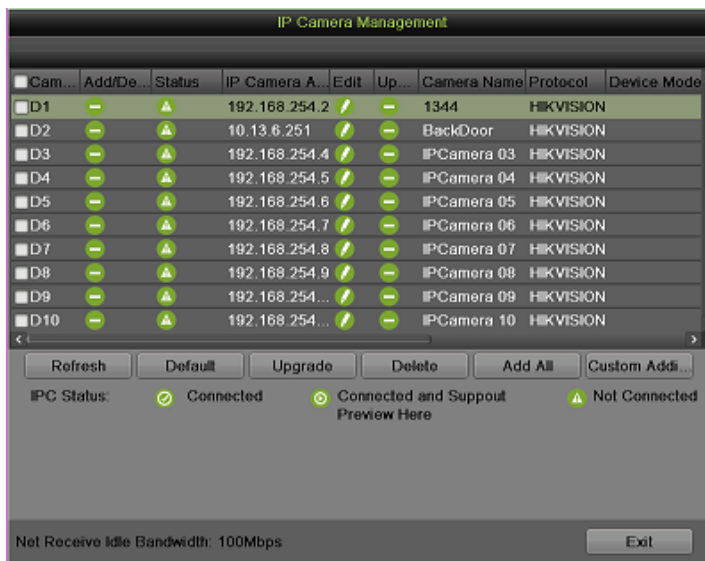

Figure 156 IP Camera Management Menu
2. Click Auto to automatically detect and add IP cameras. Or click Manual to manually manage the IP cameras, as shown in **Figure 156**.